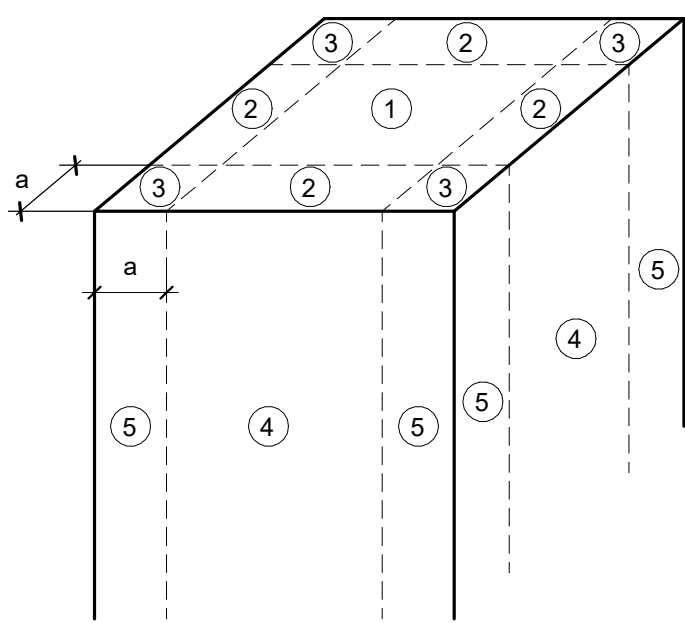

Figure 1. C&C Zone Designations
- See Figure 1 for C&C Zone Designations